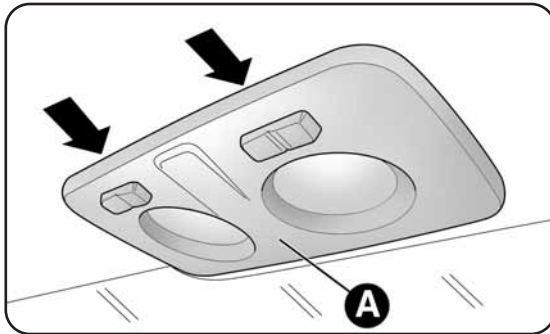
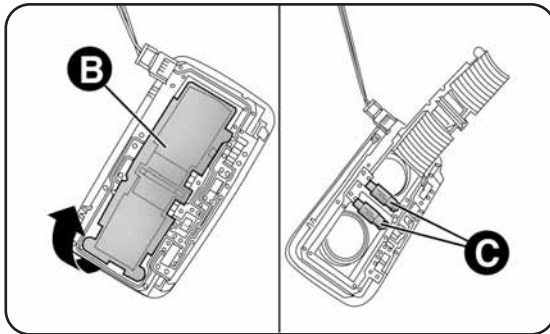

fig. 26
fig. 27
- work in the points shown by the arrows and remove light A-fig. 26;
- open the protection lid B-fig. 27;
- close flap B-fig. 27 and secure courtesy light A-fig. 26 into its housing, making sure that it clicks into place.
IMPORTANT In some versions, the courtesy light in fig. 26 is at the back (electric sun roof version). To replace the relevant bulbs, refer to the procedure described in paragraph "Rear courtesy light" in this chapter.